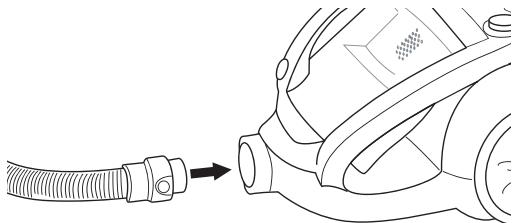

Figure 2                  *Fitting the hose to the connector*
1. Click the hose connector into the hose opening on the motor unit. To remove the hose, press on the two release buttons on the side of the connector and pull the connector from the opening; see Figure 2.